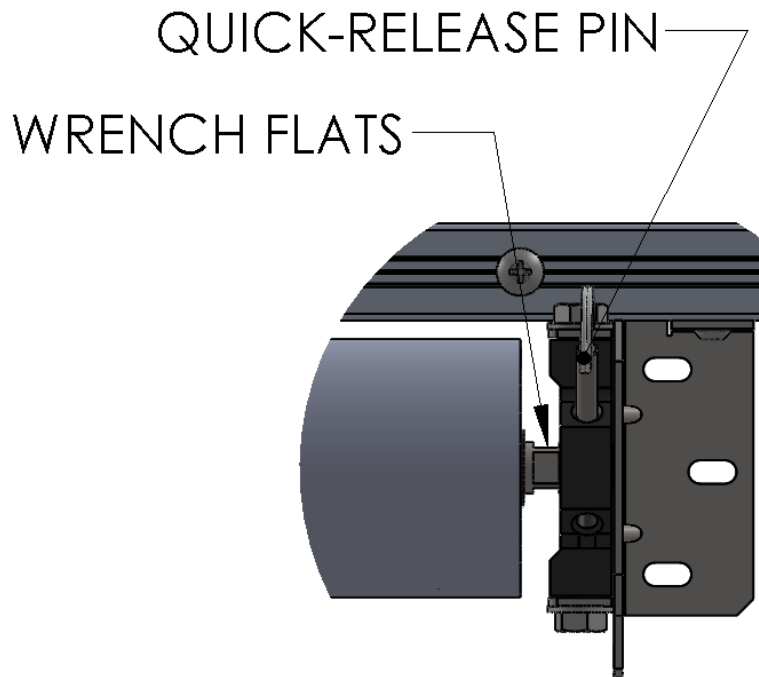

Figure 10 WRENCH FLATS/SPRING TENSIONING PIN
1. Spring tension is increased/decreased with a two-step process. To increase spring tension, insert the open-end wrench onto the wrench flats, then pull the Quick-Release pin. Pull the wrench down (CCW) until the pin can be replaced – about a quarter turn. Repeat this two-step process about 8 times equaling about 2 full turns on the spring. (Figure 10 WRENCH FLATS/SPRING TENSIONING PIN)